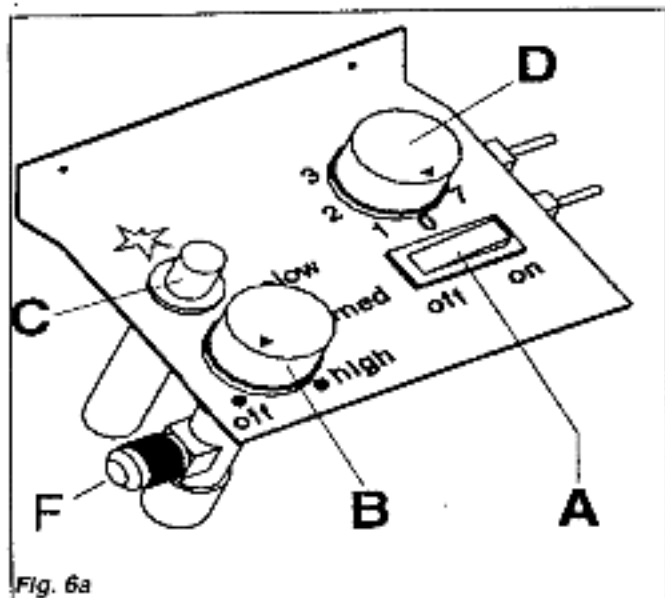
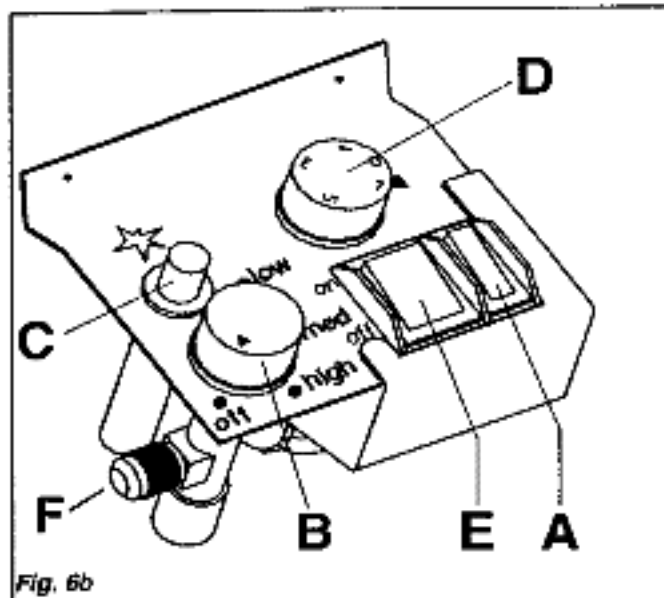

Fig. 6a
Fig. 6b
The gas inlet connection (F in Fig. 6a, 6b) on the rear of the refrigerator, to which the supply pipe is to be connected (after the refrigerator has been fitted into the recess), has a male 5/8" 18 U.N.F. thread. This is accessible through the lower vent in the wall of the vehicle. The route of the supply pipe should be considered and any preparatory work carried out before finally securing the refrigerator in the recess and connecting.
The position numbers refer to fig. 6a (RM 2191) and 6b (RM 2193)
- Open the lower vent at the rear of the refrigerator on the outside of the vehicle, and switch the electrical toggle switch(es) (A in Fig. 6a RM 2191; A and E in Fig. 6b RM 2193) to the 'OFF' position.
- Turn the gas control (B) to position "MAX"
- Depress the knob (B) of the flame failure device and hold it down while depressing the piezo igniter button (C) several times in quick succession (a click should be heard each time it is depressed).
- Switch the 120V AC toggle switch (E in Fig. 6b) to the "ON" position and switch the thermostat to a mid position.
On 12V DC operation, the temperature is controlled by a thermostat. The thermostat knob (D in Fig. 6a) should be set to position 4-5 in normal working conditions.
On 120V AC operation, the temperature is controlled by a thermostat. The thermostat knob (D in Fig. 6b) should be set to position 4-5 in normal working conditions. If the ambient temperature is high and/or fresh food is put into the refrigerator you may set the fridge to a higher position.
- **RM 2191:** That the 12V thermostat (D in Fig. 6a) is not set to the "0" position.